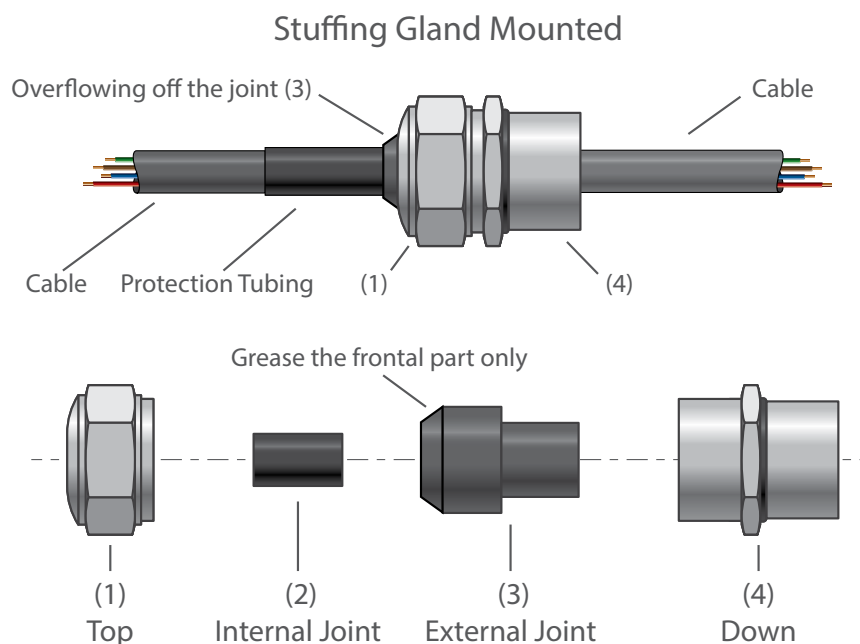

Fig.2-9 Stuffing gland (Overview and separated)
3. Pass the cables into the stuffing gland by proceeding as follows (*see Fig.2-9*):
- a. Unscrew element (1) Counterclockwise. Element (4) must not be removed from the housing.
- b. Remove joints (2) and (3) from element (1). These two elements allow the stuffing gland to adapt to various diameters of cable. Element (2) can be removed from element (3) by simply pushing it outwards.
- c. Pass the cables through elements (1), (2) (if used), (3) and (4).
- d. Reassemble the elements of the stuffing gland and, before replacing element (1), lubricate the seal (3) with silicone as indicated (*see Fig.2-9*). Tighten element (1) so that it projects beyond joints (2) and/or (3) to provide the degree of seal required.
3. Pass the cables into the stuffing gland by proceeding as follows (see Fig.2-9):
- c. Pass the cables through elements (1), (2) (if used), (3).
- f. Reassemble the elements of the stuffing gland (take care that the shield remains in place) and, before replacing element (1), lubricate the seal (3) with silicone as indicated (see Fig.2-9). Tighten element (1) so that it projects beyond joints (2) and/or (3) to provide the degree of seal required.